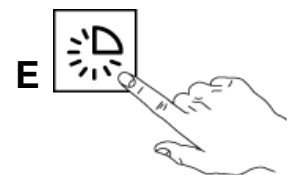

Fig.17
- 3- Press button "E" start washing cycle. Indicator light "F" is ON for the entire period of washing. (Fig.17)